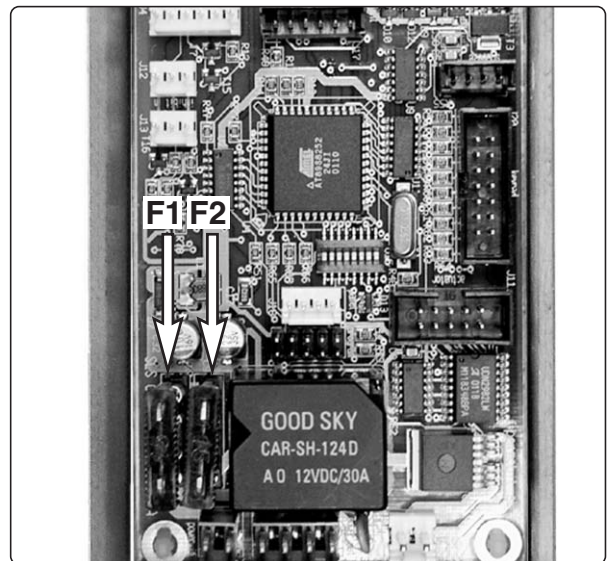

Fig. 57. F1 = 24V unswitched 15A.
3. Change the blown fuse, see fig. 57.